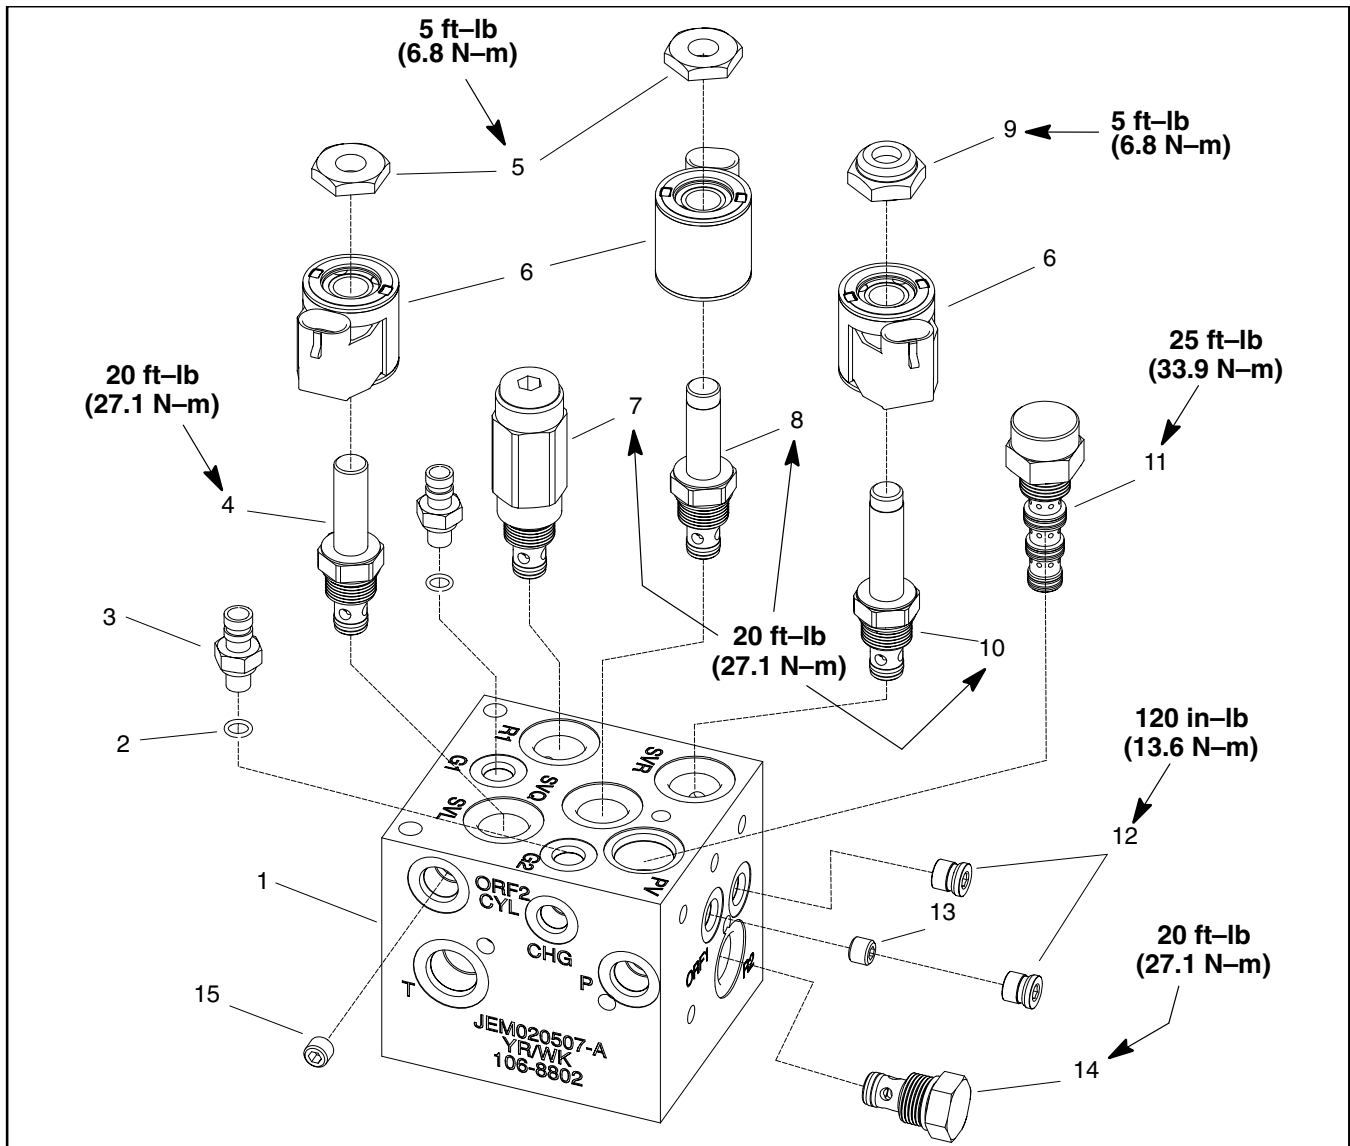

Figure 40
C. Torque cartridge valve using a deep socket to valves identified in Figure 40.